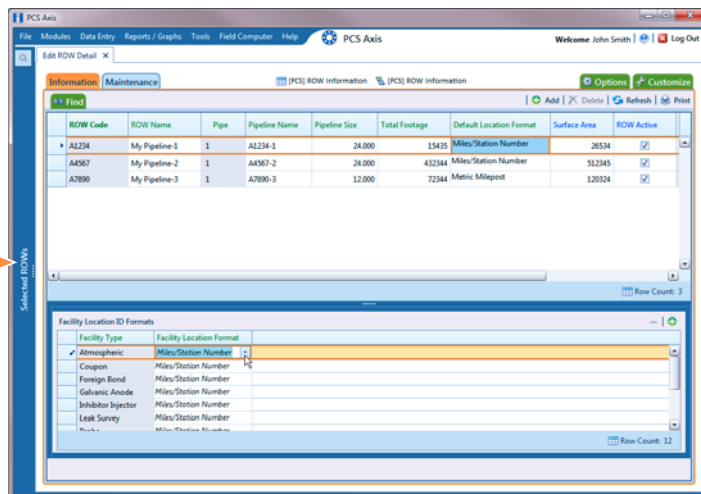

Figure 4-11. Edit ROW Detail
- 3 Click **Data Entry > Edit ROW Detail** to open the *Edit ROW Detail* window (Figure 4-11, page 140).